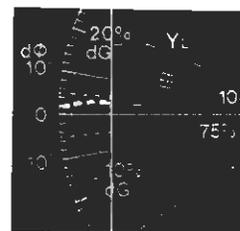

Figure 4-4
- (d) With the amplitude adjuster, adjust the outer-most vector so it can touch the circle. See Fig. 4-4.